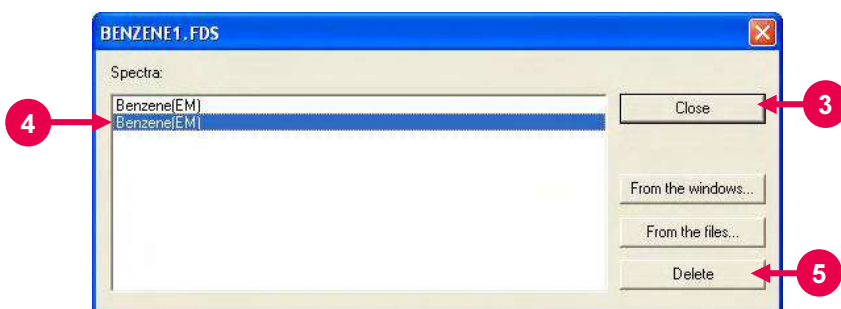

Fig. 7-25
- (5) Two spectra will be overlaid on the data processing window. At the same time, a dialog box as in Fig. 7-25 will appear. Click the **Close** button. (Refer to ③ in Fig. 7-25.)
- (6) To delete a spectrum, click the corresponding sample name in the Spectra list. (Refer to ④ in Fig. 7-25.) When the clicked sample name is highlighted in blue, the **Delete** button becomes active. Click the **Delete** button. (Refer to ⑤ in Fig. 7-25.)